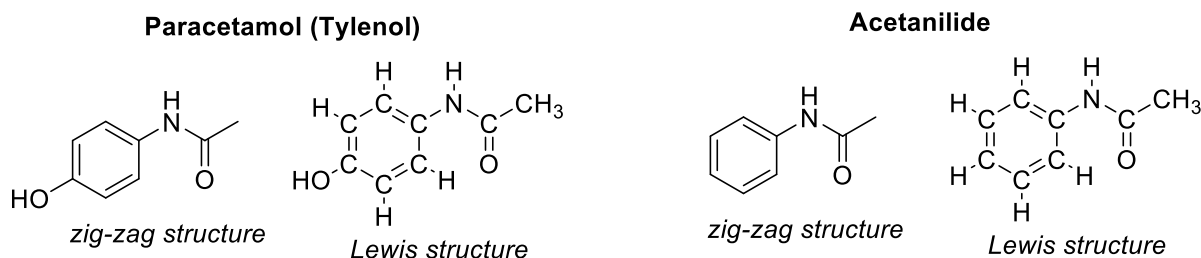
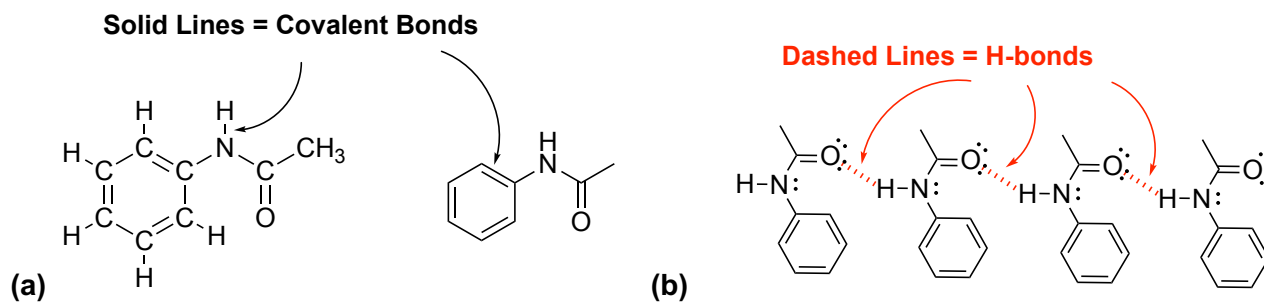

Figure 1. Structures of paracetamol and acetanilide
Figure 2. (a) Covalent bonds and (b) non-covalent H-bonds in acetanilide.
Paracetamol, the active ingredient in **Tylenol®** (**Figure 1**), is commonly used for pain relief (analgesic) and to reduce fevers. The synthesis of pharmaceutical agents like Tylenol requires pure starting materials to avoid complications from impurities. Purification is a tedious part of synthetic organic chemistry. Often product recoveries are sacrificed in favor of more pure materials. Solids can be purified *via* recrystallization or sublimation and liquids *via* distillation. Acetanilide has a similar structure to Tylenol and is also an analgesic. Acetanilide is no longer marketable due to toxic effects when ingested, but it is safe to use in the organic teaching lab as it is only a mild skin irritant. The purification of acetanilide serves an excellent introduction to recrystallization (**Figure 2**).
2. What are all the covalent **bonds** in acetanilide? See **Figure 1**, ex. carbon-carbon single bond.